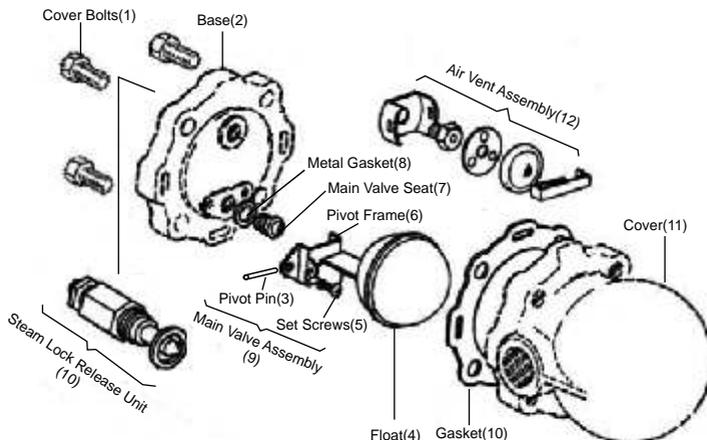

Figure 8 : Maintaining the main valve assembly
### 7.4 Maintaining / Replacing the main valve assembly : (Refer to Figure 8)
**9.** Available Spares: (Refer to Figure 8)